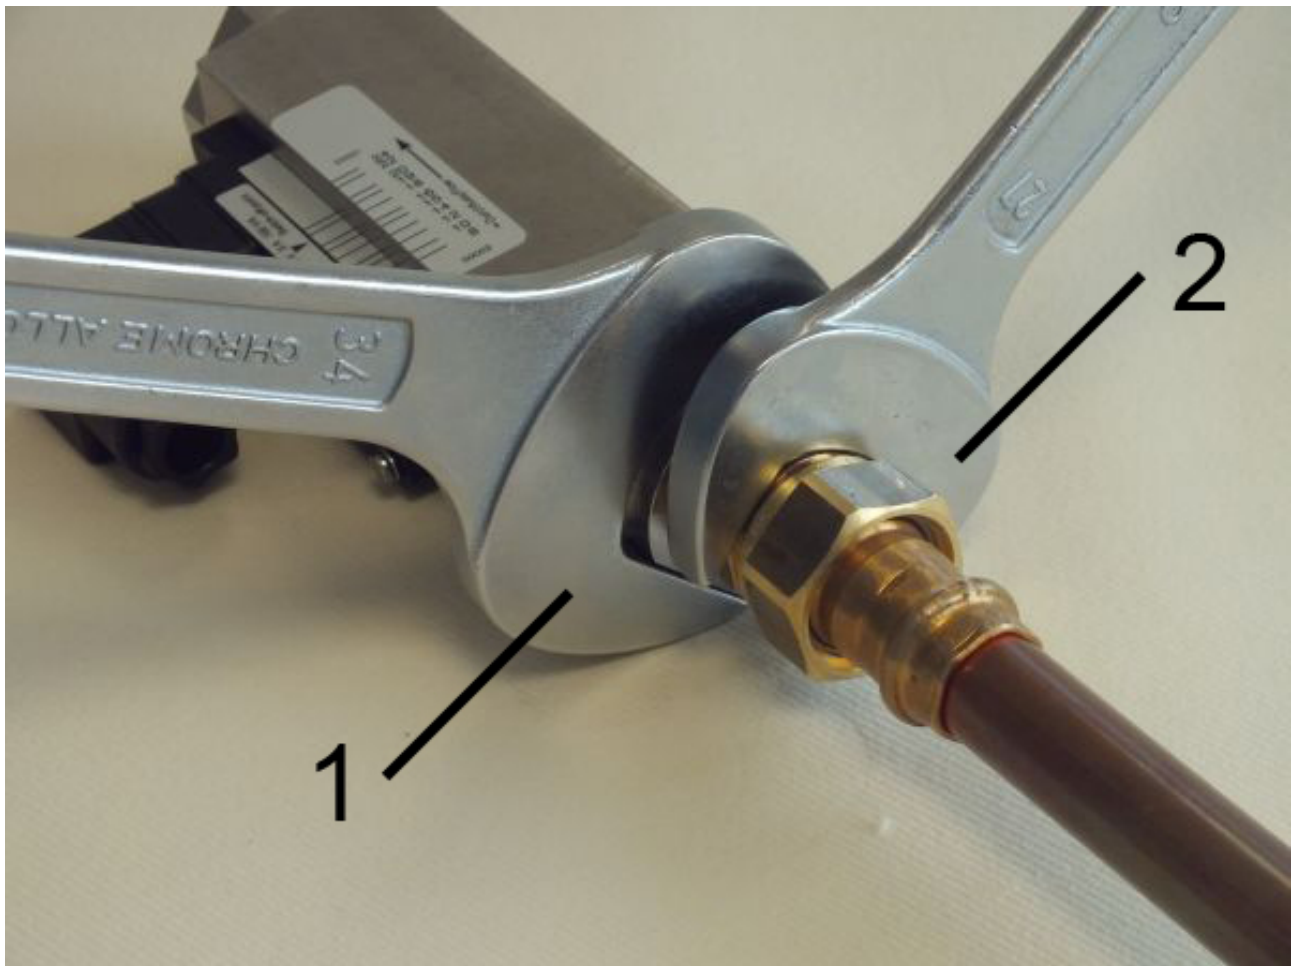

Fig. 11: Screw in the device
2. ➡ Fasten the adapter union of the pipeline with an appropriate spanner (*Fig. 11/2*). When doing so, lock the process connector in place to prevent slip, using a suitable spanner. (*Fig. 11/1*)